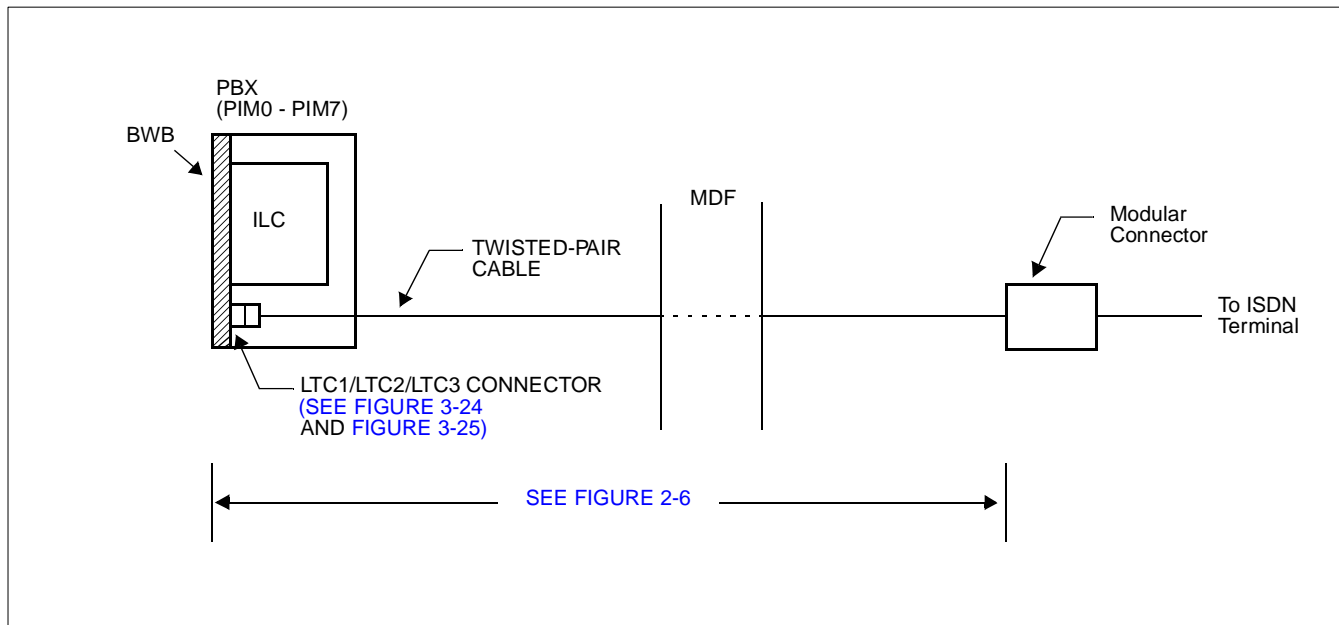

Figure 3-23 Cable Connection via the MDF for ISDN Terminal
Connect the cable to an ISDN Terminal or a Terminal Adapter (TA) via the MDF as shown in Figure 3-23.